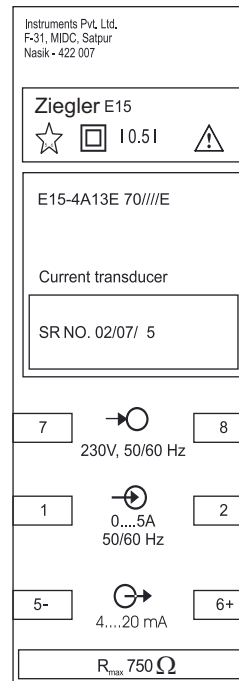

Fig.5. Declaration of type label
4. Technical Data (Refer Fig.5)
Make connection as per printed label on transducer (Fig.5, example of a nameplate)
... the data required to carry out the prescribed measurement must correspond to those marked on the nameplate of the Ziegler E15 (→⊖ measuring input, ⊖→ measuring output and →⊙ power supply. See Fig.5)